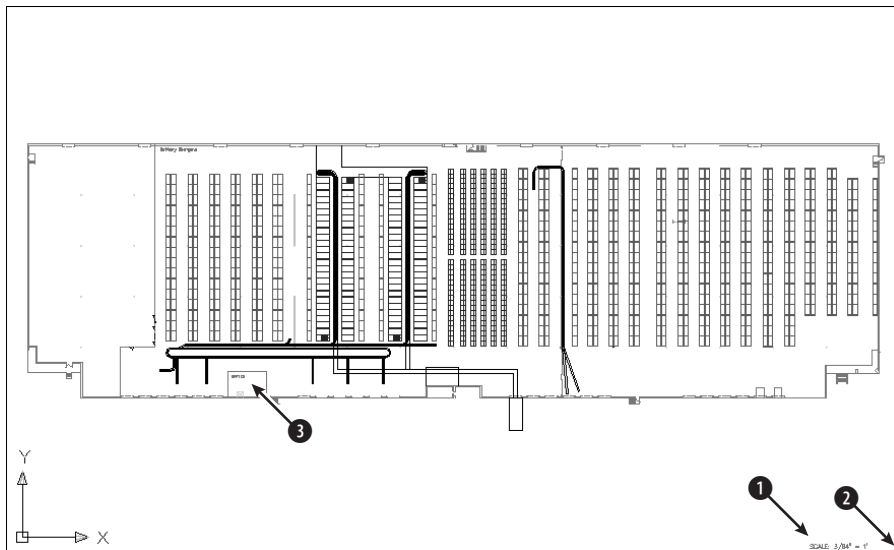
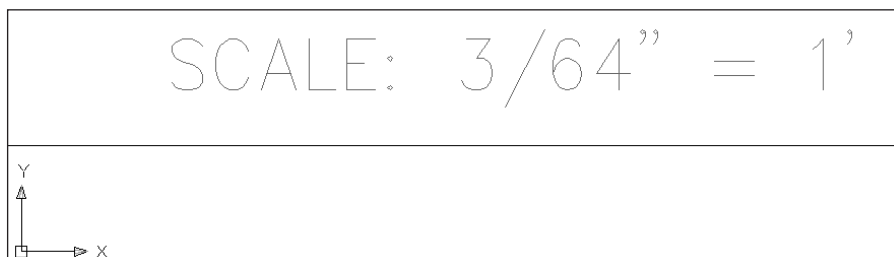

Figure 8-5: A drawing of a large warehouse, with shelving and conveyor belts
Figure 8-6: Your display should look approximately like this figure after using ZOOM Window.
1. Open `ab08-b.dwg` from the CD-ROM. This is a drawing of a warehouse, as shown in Figure 8-5.
3. At the Specify first corner: prompt, pick **1**, as shown in Figure 8-5. At the Specify opposite corner: prompt, pick **2**. AutoCAD zooms in to display the window you specified, as shown in Figure 8-6.
7.  Choose Zoom Center from the Zoom flyout. At the Specify center point: prompt, pick **3** in Figure 8-5. At the Enter magnification or height <5315.176>: prompt, type **500** ↵. AutoCAD zooms in on the office.